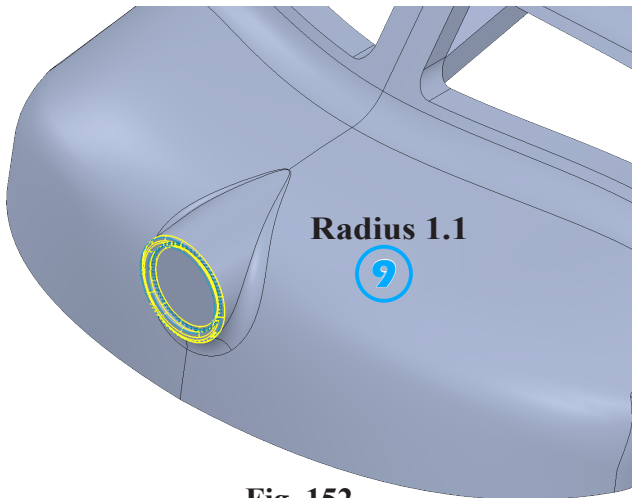

Fig. 152
- ⑨ Radius  .25
click circular edges of headlight (3), Fig. 152